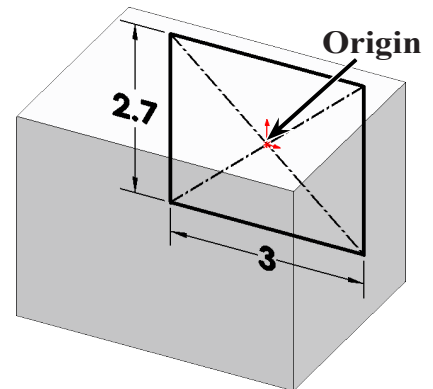

Fig. 6
Step 3. Sketch center rectangle at Origin , **Fig. 6**.
Step 4. Click **Smart Dimension**  (S) on the Sketch toolbar.
Step 5. Add dimensions, **Fig. 6**.